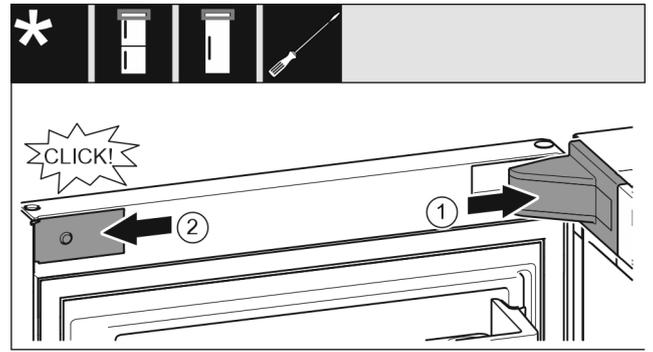

Fig. 25
- ▶ Put the swap bearing block cover Fig. 25 (1) on and engage, push apart carefully if required.
- ▶ Place the trim Fig. 25 (2) on the side and engage.